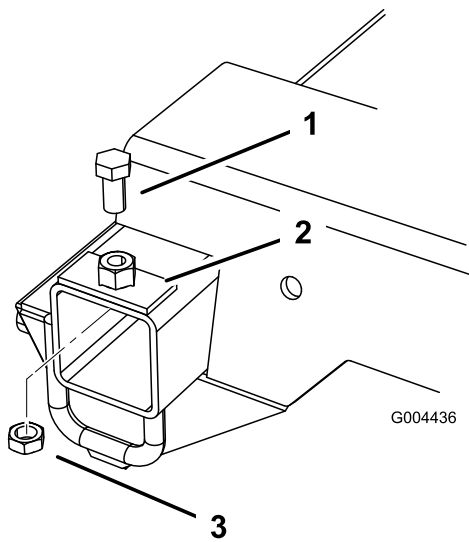

Figure 4
3. Place the plate over the drilled hole in the frame, and secure it into place using the bolt (1/2 x 1 inch) and jam nut (1/2 inch); refer to Figure 4.